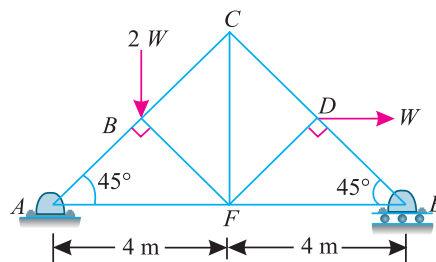

Fig. 13.43.
**Example 13.12.** 2 A truss of 8 metres span, is loaded as shown in Fig. 13.43.